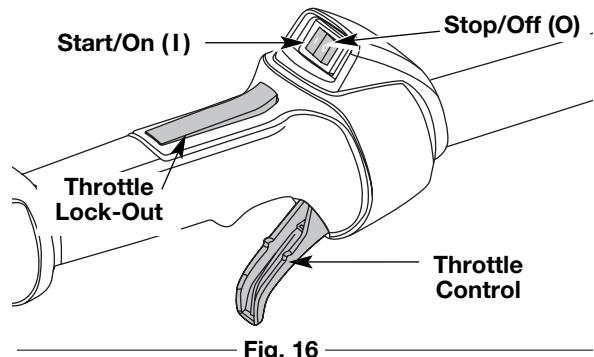
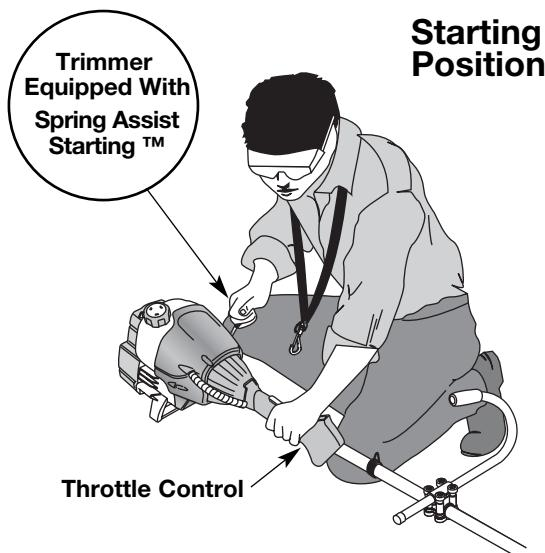

Fig. 16
Fig. 18
**WARNING:** Avoid accidental starting. Make sure you are in the starting position when pulling the starter rope (Fig. 18). To avoid serious injury, the operator and unit must be in a stable position while starting. Make sure that any Add-On item is installed correctly and secure before starting the unit.
**NOTE:** Verify the On/Off Stop Control is in the **ON (I)** position (Fig. 16).
4. Crouch in the starting position (Fig. 18), squeeze the throttle lock-out and throttle control (Fig. 16), and pull the starter rope briskly 5 times.
2. Put the On/Off Stop Control in the OFF (O) position (Fig. 16).